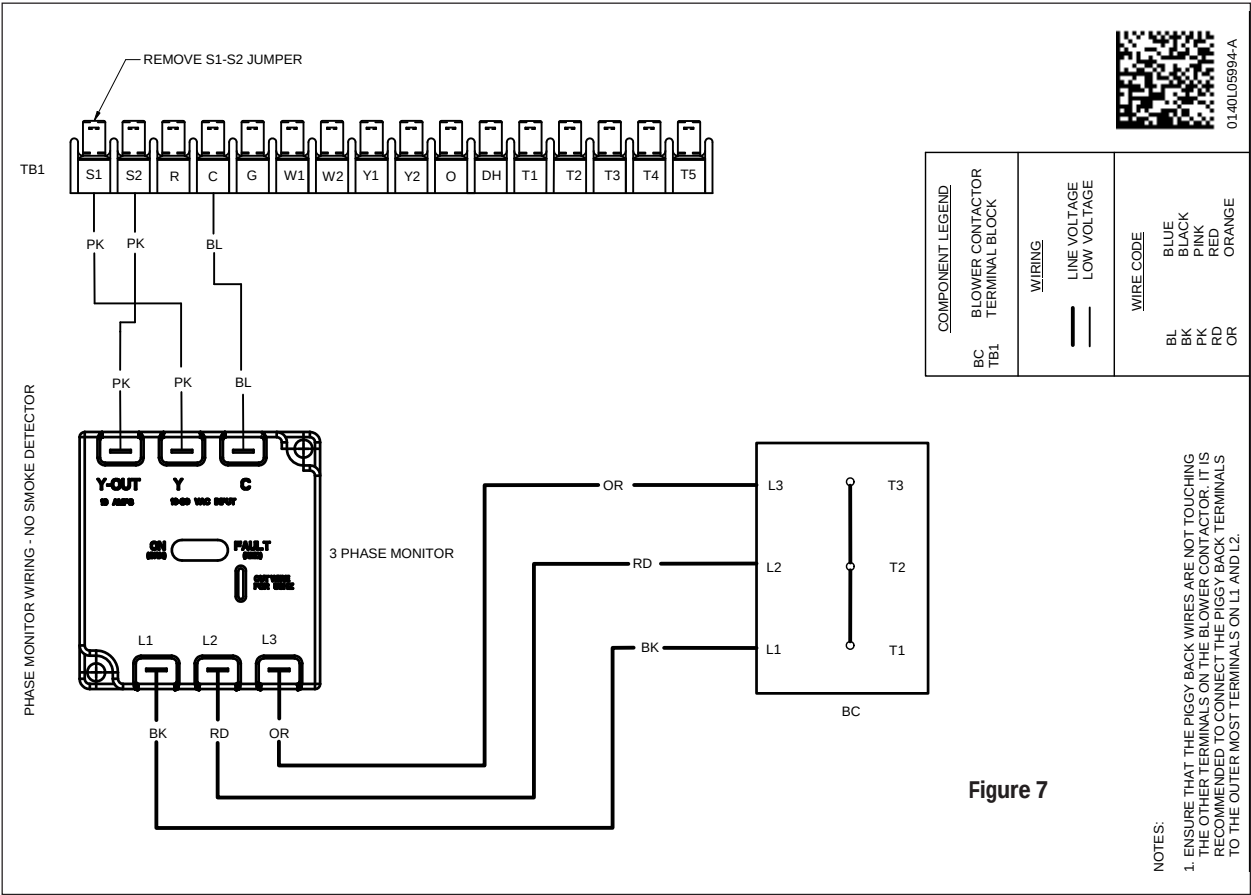

Figure 7
10. Pass wires through the bushing. Connect the other end of the wires to L1, L2 and L3 Contactor. Make sure they are connected as: Black to L1; Red to L2; White to L3. See wiring diagram, Figure 7.